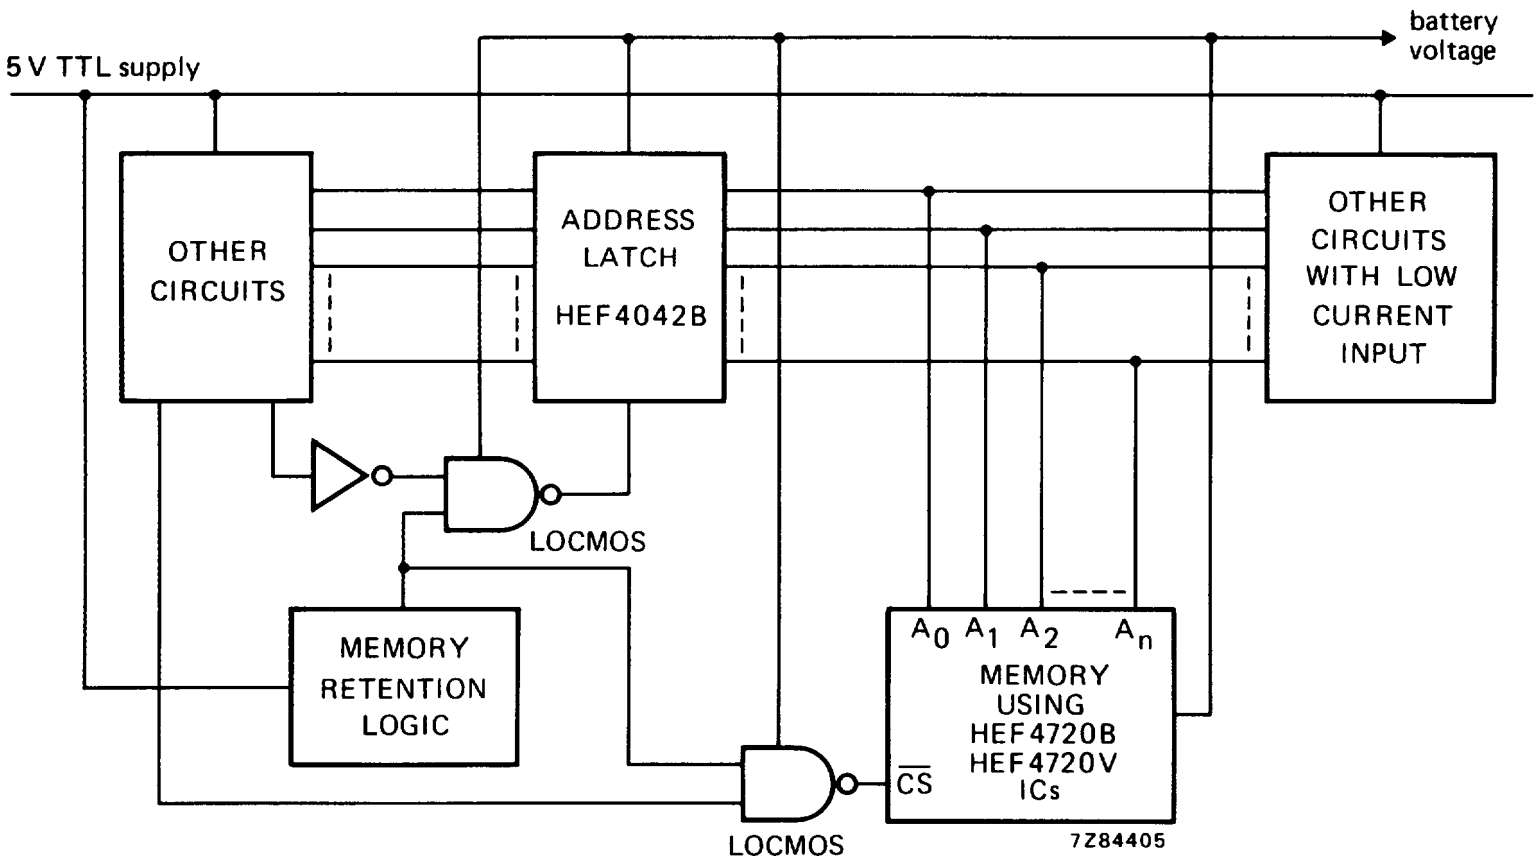

Fig.11 Preferred solution for memory retention; all interface circuits are battery-fed LOCMOS. Note that maximum sink current of the HEF4042B is about 1,5 mA.
3. The best solution is to select the interface circuits from the LOCMOS family and to feed all these circuits from the battery (Fig.11). These stages then remain active when the TTL 5 V supply fails. The interface circuits are mostly only active on a clock pulse, have the possibility of being inactive on a gate level, or can be forced into one position.